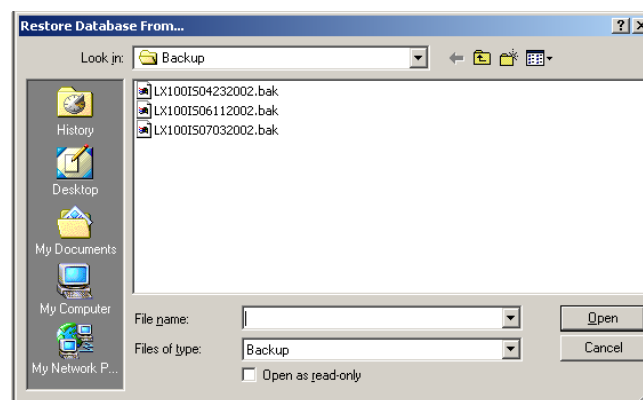

Figure 5-105 Restore Database From Dialog Box
3. From the **Restore Database From** dialog box, select a database backup file to restore and click **Open**. See Figure 5-105. The system restores the previously saved database. Notice that the files are organized by date (month-day-year).